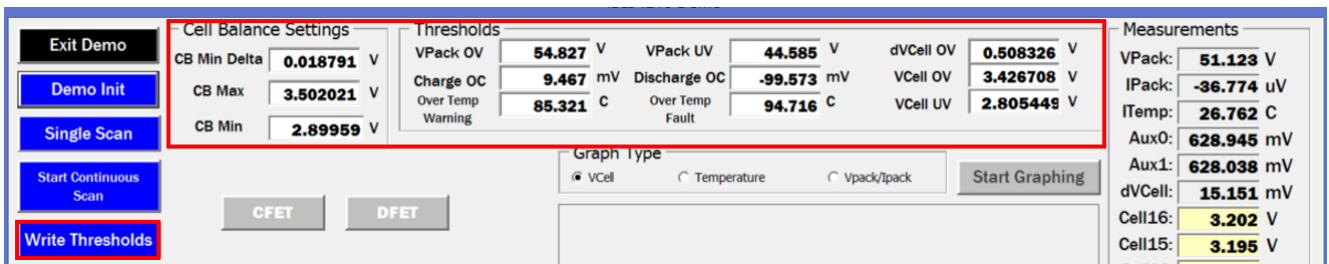

Figure 68. Demo Thresholds
**Demo Init** sets some of the key thresholds in the RAA489206 to values more useful than that of the default values, but these values might need to be modified further. To modify any of the available settings, simply change the value in the boxes highlighted in Figure 68, then press the **Write Thresholds** button. A single scan can be used to confirm the settings were written correctly.